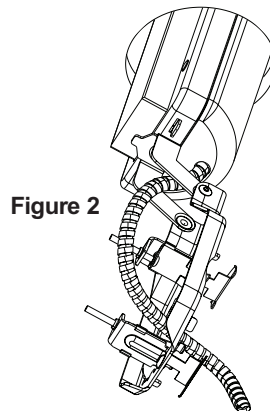

Figure 2
Step 3. Slide mounting frame, wiring compartment first, thru ceiling cut-out (Fig. 2).